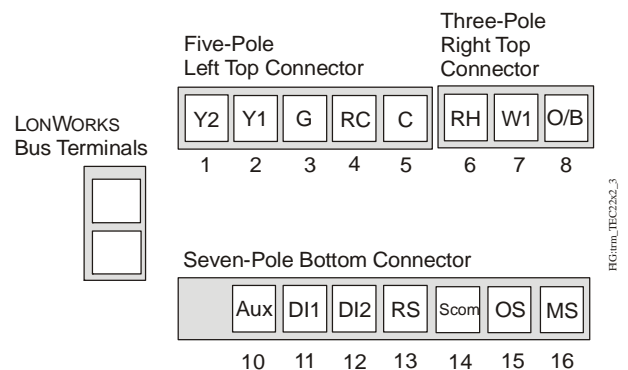
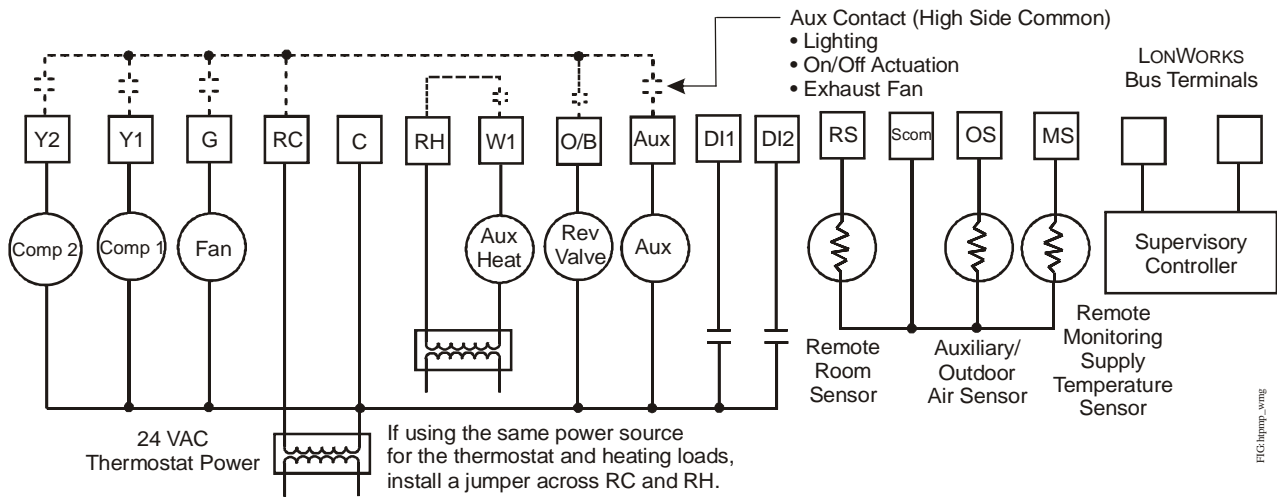
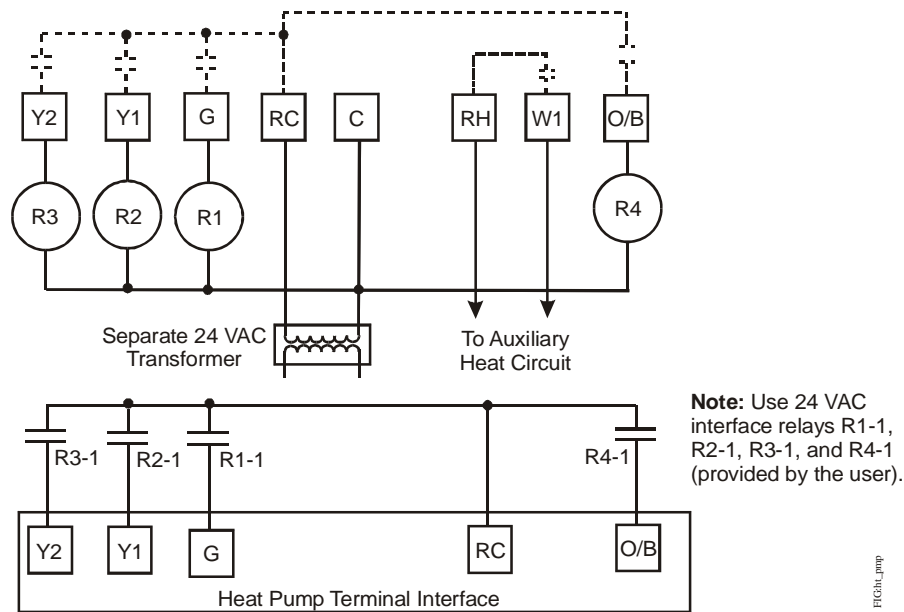
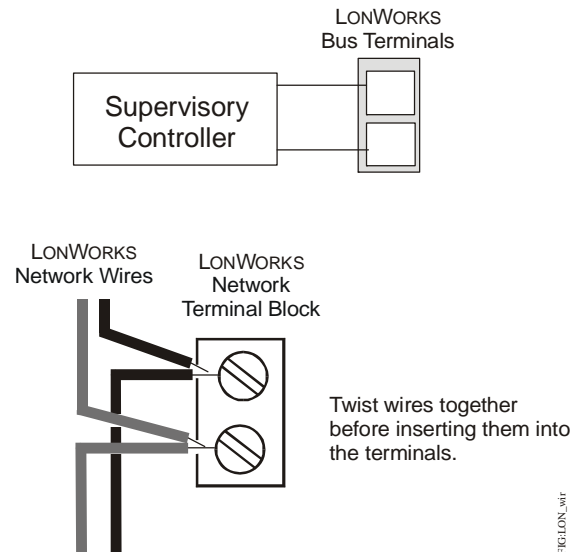

Figure 5: TEC22x2-4 and TEC22x2-4+PIR Thermostat Controller Terminals
Figure 6: TEC22x2-4 and TEC22x2-4+PIR Thermostat Controller General Application
Figure 7: VDC Switching Application for Heat Pumps
Figure 8: Thermostat Controller to Network Connection
- Strip the ends of each wire 1/4 in. (6 mm) and connect them to the appropriate screw terminals as indicated in Table 1, Figure 5, Figure 6, and Figure 7.
- Reattach the LONWORKS communication wires to the LON terminal block. See Figure 5.
Table 1: Terminal Identification (See Figure 5.)
1. Connect the LONWORKS network wires to the LONWORKS network terminal block on the thermostat controller (Figure 5, Figure 6, Figure 7, and Figure 8).